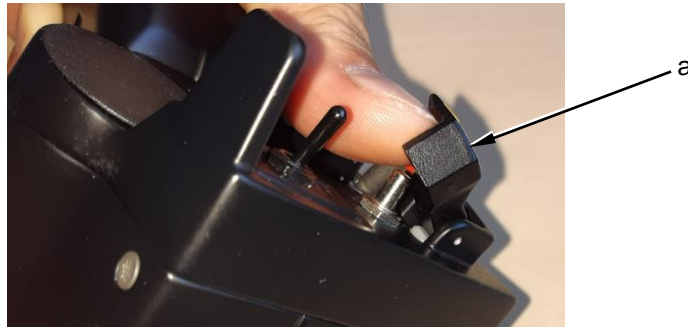

Figure 8 - Step3
- . Lift the safety-cap (a) with your thumb, refer to Figure 8.